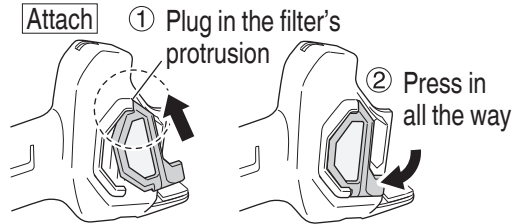

Fig. 20
- If the mesh is clogged and the debris or dust cannot be removed, detach the filter and clean it with an air gun, etc. (Fig. 20)